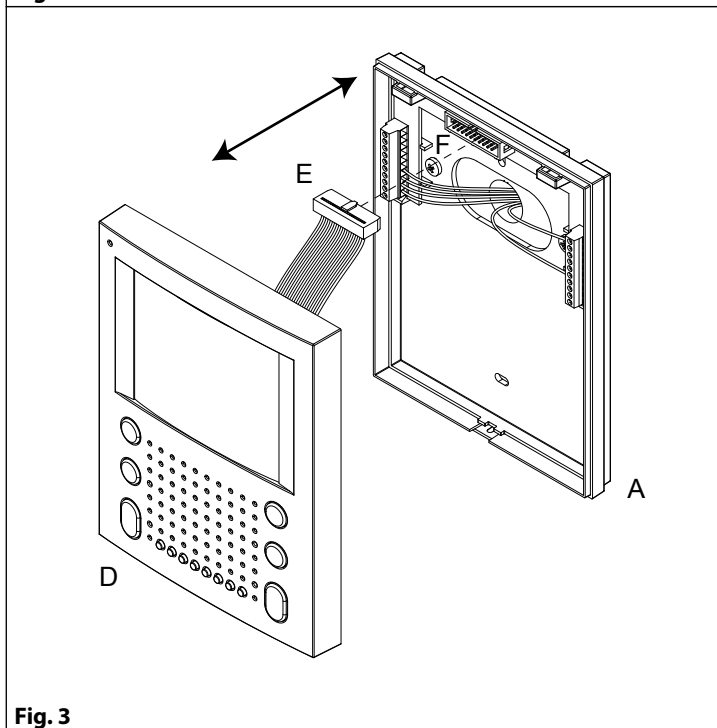

Fig. 3
1. To install Art.SL5456 it is necessary to open it. Follow picture **Fig. 4**: turn screw "G", pull cover "D" and lift it up (or push it forward if the videomonitor is in horizontal position), then disconnect plug "E" (**Fig. 3**) from plug "F" on the connection board housed on the bottom "A".
5. As shown in **Fig. 3**, move cover "D" close to bottom "A", connect plug "E" to plug "F" on the connection board then proceed with the next step.